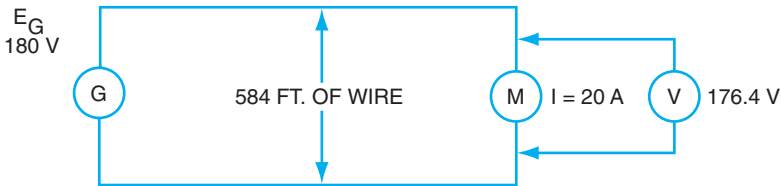

Figure 9-1 Voltage applied to the motor.
If the wire is used to connect a generator with 180 volts to a motor, as shown in Figure 9-1, the voltage applied to the motor is as follows:
1. If the current in Figure 9-1 changes to 35 amperes, find the voltage applied to the motor.
2. Find the line drop in Figure 9-1 if the total length of the wire is 812 feet instead of 584 feet.
- 3. If the wire in Figure 9-1 is changed so that its resistance is 0.4 ohm per thousand feet, with 584 feet required, find the voltage applied to the motor.